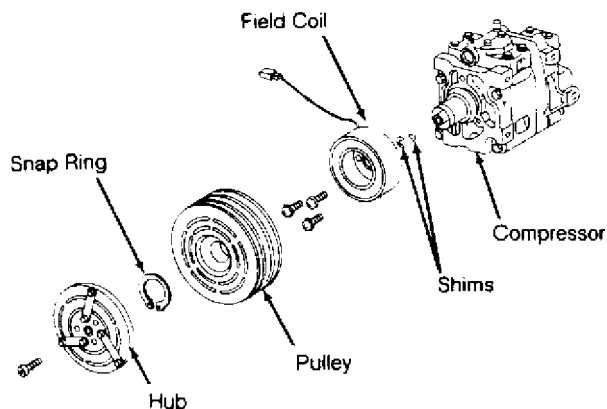

Fig. 10: Exploded View of Rotary Vane Compressor (Matsushita)
2) Remove snap ring. Using a puller, remove pulley. Disconnect electrical leads from field coil. Remove 3 field coil mounting bolts. Remove field coil. See Fig. 10. To install, reverse removal procedure.